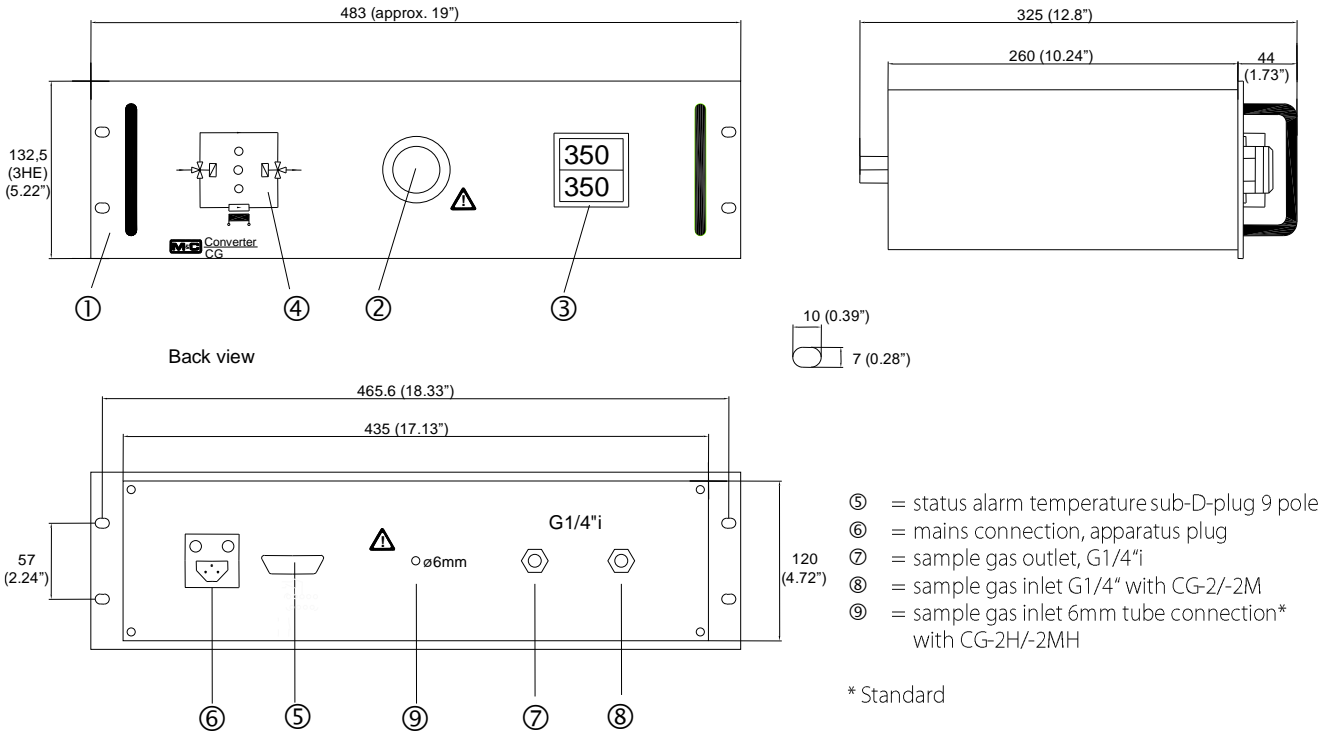

Figure 4 CG-2 and CG-2M
Figure 4 shows the conversion unit version **CG-2** and **CG-2M** in the 19"-rack housing.
The **M&C** gas converters type **CG-2** and **CG-2M** are designed as compact, user-friendly and easy to service 19" plug-in units ① (figure 4) suitable for mounting in 19" cabinet systems. When fitted with the optional mounting bracket with a vertical swivel-holder (**50A3000**), the converters can also be wall-mounted.